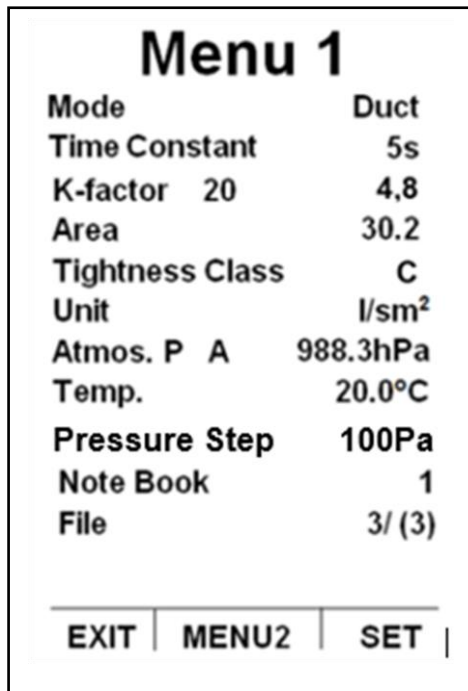
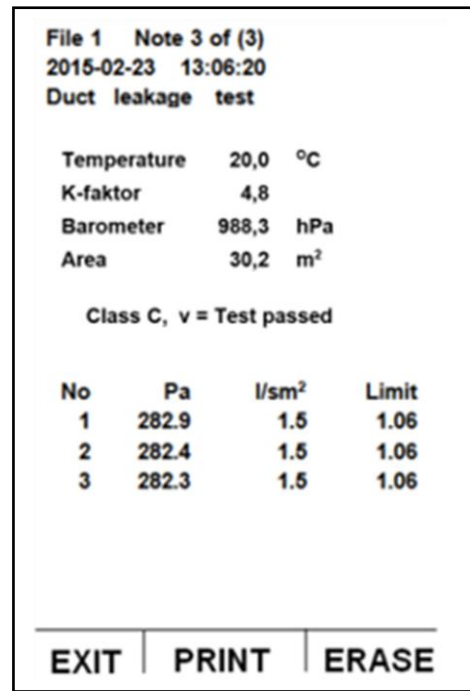

Fig. 5 Menu 1
Fig. 6 Saved measurement file
5. Turn Swema 3000md on and select measuring mode DUCT in MENU1. (See Fig. 5).
6. Select in Swema 3000md, the K-factors shown on the label of the flange. (See Fig. 5).
7. Set the surface area of the duct to be tested in m^2 (if that is the chosen unit). The selected area is used to calculate l/sm^2 and m^3/hm^2 if these units are selected. (See Fig. 5).
8. Set the tightness (density) class to be used for the measurement of the leakage in the duct. See Fig. 5). Select between classes A, B, C or D. In the saved protocol the selected class, used for calculations, and the limit for the leakage on the test are shown See Fig. 6). The limit depends on the selected class and the pressure during the test.
9. Set the unit for the measurement, select between l/s , m^3/h , l/sm^2 or m^3/hm^2 . The unit l/sm^2 or m^3/hm^2 are calculated with the selected area of the duct. (See Fig. 5).
11. Set the actual ambient temperature. Swema 3000md compensates for air density calculating with the selected temperature and the measured barometric pressure. The temperature can be measured also with a thermocouple type-k connected to Swema 3000md. (See Fig. 5).
12. Set the pressure step to be used during the measurement. i.e. 100 Pa to change the pressure in steps of 100. (See Fig. 5).